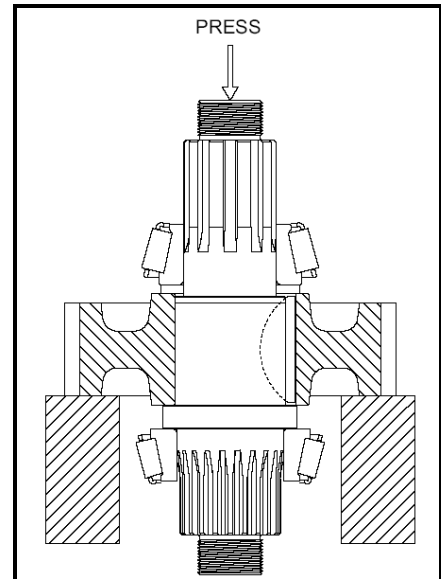

Figure 31
- 4) Place the shaft assembly in a press so that the gear is supported and the press arbor bears against the yoke-end of the shaft. See **Figure 31**. Remove the bearing cone assembly, the spacer washer, and the gear. Remove the shaft key only if necessary.